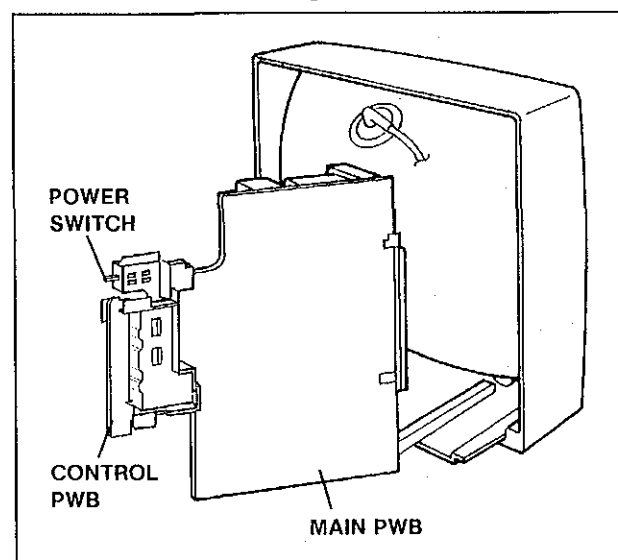

Fig. 4
- \* As shown in Fig. 4, set the removed chassis upright.